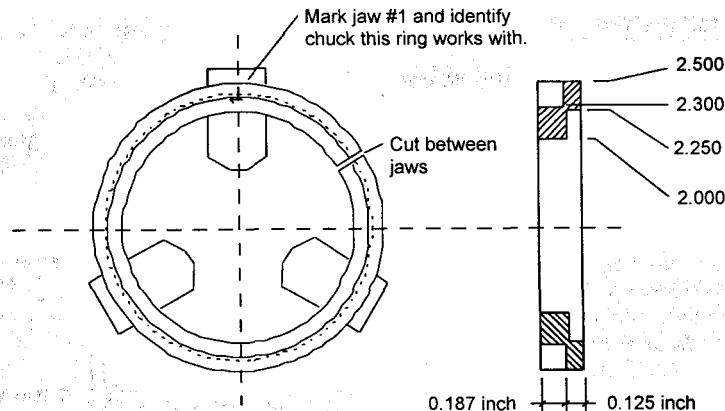

Figure 3.17 With the exception of the 2.250 inch holding dimension, the dimensions of the split collet are not critical.
- We need a 0.125 inch or longer register to hold the collet adequately in the chuck. We need a recess of about 0.125 inches to hold the part in the collet. Unfortunately 0.125 and 0.125 makes 0.250 so if we are not careful, the register and recess will run into one another and we will not be able to hold anything! We have to keep this in mind when making the split collet and we have to leave a little material here and there to hold everything together. It is easiest to make it so that the register diameter is larger than the recess diameter. See Figure 3.17.